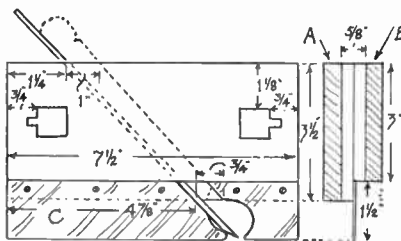

Fig. 1—Side view and cross section of the plane
A side view and cross section of the body of the plane are given in Fig. 1. Cut two pieces of the wood to the dimensions of (A) and screw both together. Be careful in placing the screws, in fact it would be as well to use only four at first, one in each corner, about $\frac{1}{2}$ in. in, and in the case of the two bottom screws, 1 in. up. In these parts a sloping channel is to be chiselled out for the plane iron and wedge. Pencil lines across the top and bottom at the distances from the left side shown. Now separate the two pieces and join the lines at top and bottom to show the slope of the channel.
the lathe is complete, will be screwed to the bench permanently, or for greater convenience, it can be used in the bench vice by adding a strip of wood 2ins. by 1in. screwed to the underside of the bed and running the whole length of the base, as in Fig. 1. This strip is held in the vice, the lathe bed resting on the jaws of the vice.